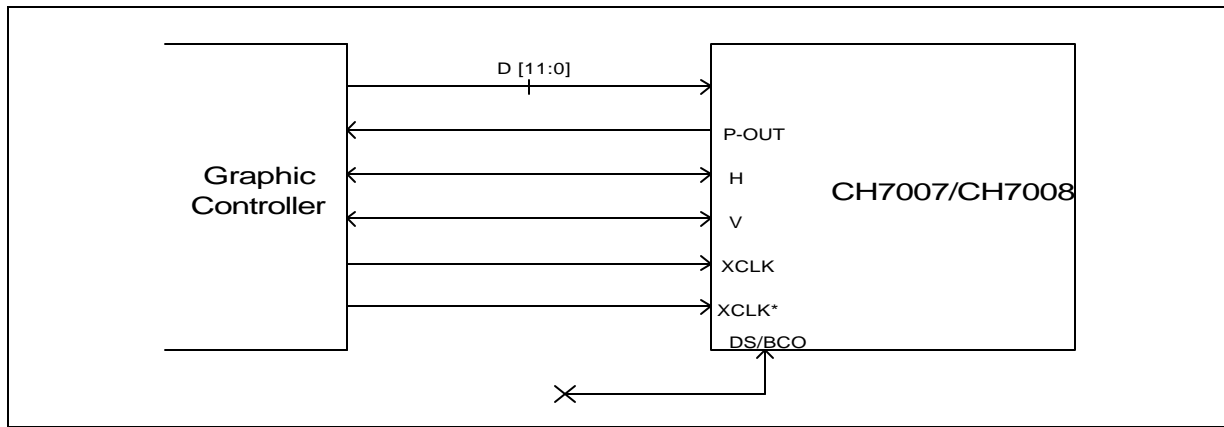

Figure 5 : Master Clock Mode
• **Master Clock Mode (Figure 5)**